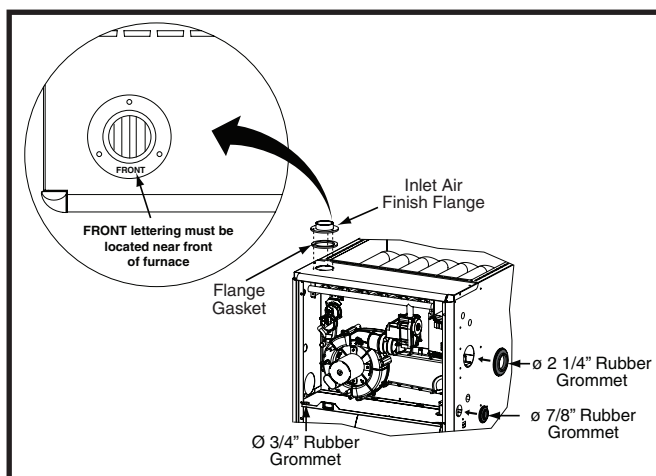
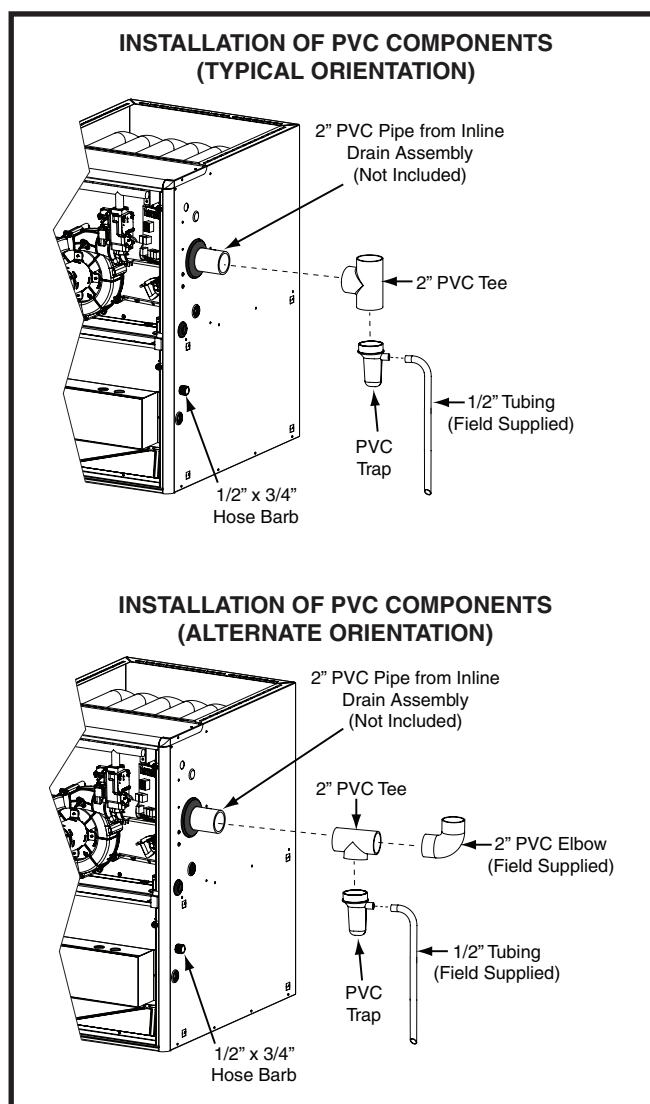

Figure 16. Finish Flange & Rubber Grommets
Figure 17. PVC Components
The components in Figure 16 (page 18) & Figure 17 (page 18) are included in the extra parts bag supplied with the purchase
NOTE: Make sure the flange is properly oriented so that the FRONT lettering is located near the front of the furnace as shown in Figure 16 \(page 18\).
The 2 1/4" rubber grommet is used to seal the opening between the furnace cabinet and the 2" PVC vent pipe. The rubber grommet should be installed in the 3" hole prior to running the vent pipe out of cabinet. No sealants are required. See Figure 16.
- The 2" PVC pipe shown in Figure 17 is not provided in the extra parts bag.
The 2" PVC Tee and Trap are used when the inducer is rotated to vent out thru the left or right side of the furnace cabinet. See Figure 17.
1. Install the PVC Tee vertically on the 2" vent pipe that is extending out the side of the cabinet. Permanently bond them together using appropriate primer and cement. Refer to the typical orientation shown in Figure 17.
1. Install the 2" PVC Tee horizontally on the 2" vent pipe that is extending out the side of the cabinet. Permanently bond them together using appropriate primer and cement. Refer to the alternate orientation shown in Figure 17.